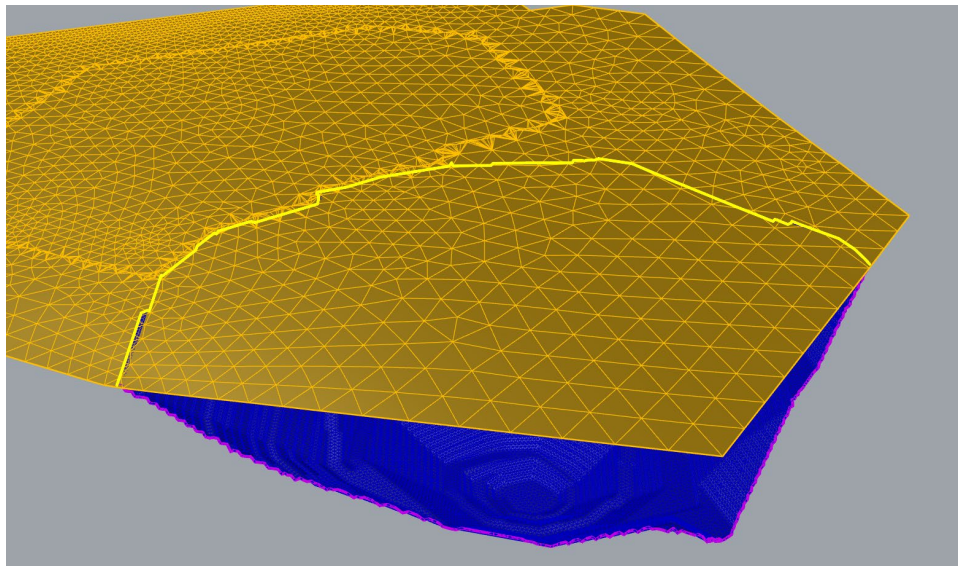

Figure 81: Selection of a piece of the pit boundary for mesh extension.
19. Turn on the “IniTopo” layer. Extend the part of pit mesh boundary upward to the topo mesh using **GExtend** → *ExtendToMesh* selecting the upper bounds of the pit mesh (Figure 81) and using 0,0,0 as the start of the extension and 0,0,1 as the end to extend directly upward. Proper intersection can be checked using **_MeshIntersect** with the two meshes.